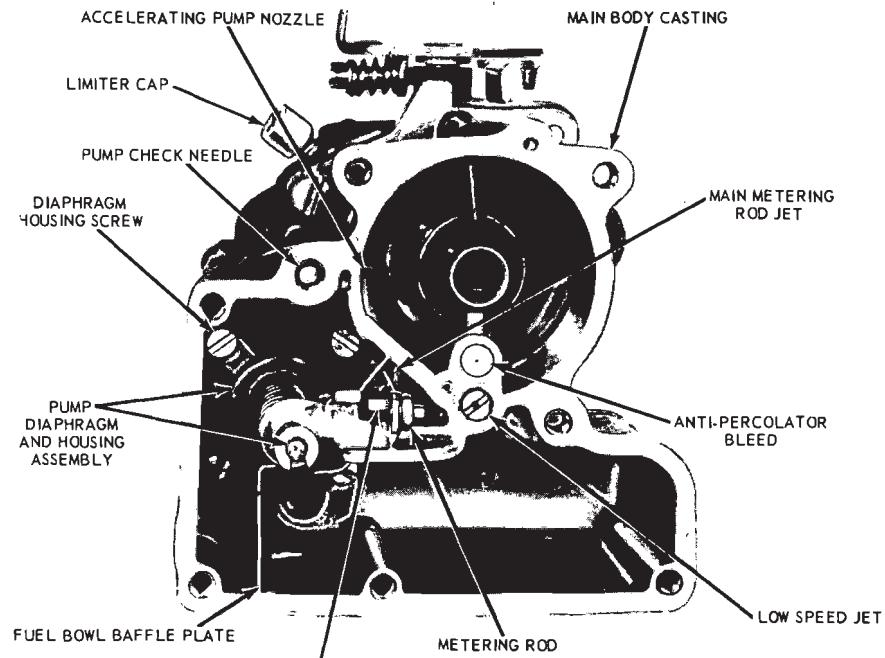

FIG. 8—Pump Diaphragm and Housing Installation
7. With the proper size jet tool or screwdriver remove the low speed jet and the metering rod jet (Fig. 8).
1. With the proper size jet tool (or screwdriver) install the low speed jet and the metering rod jet (Fig. 8).
11. With the proper size jet tool or screwdriver remove the low speed jet (Fig. 8).
3. With the proper size jet tool (or screwdriver) install the low speed jet and the metering rod jet (Fig. 8).
4. Install the pump diaphragm in the pump diaphragm housing (Fig. 8). Position the pump diaphragm spring on the diaphragm shaft and housing